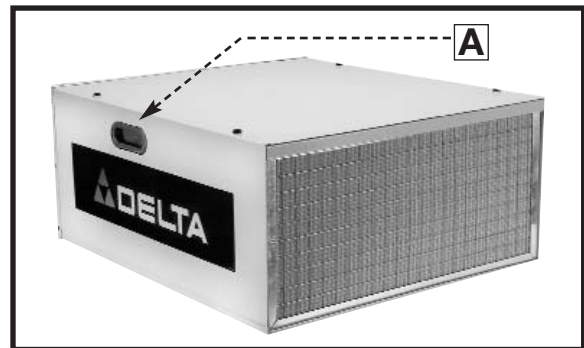

Fig.4
The air cleaner cabinet has convenient lifting handles located on either side (one of which is shown at (A) Fig. 4). To avoid damage to the air filters, carry the air cleaner with the filters positioned away from your body.